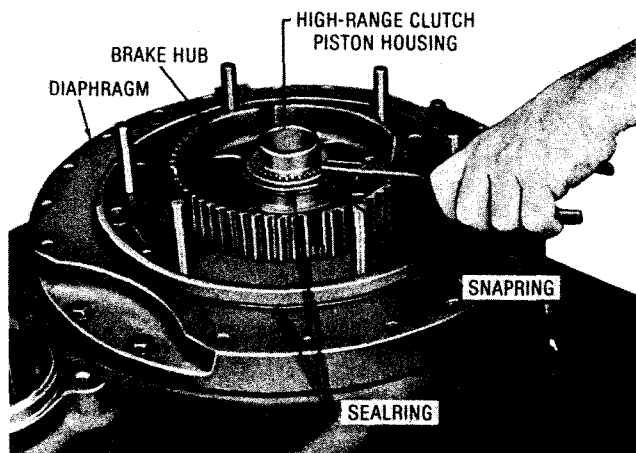

Fig. 7-27. Installing brake hub snapring (TTB)
(2) Install the sealring onto the diaphragm (fig. 7-27). Install the brake hub onto the splined hub of the high-range clutch piston housing. Retain the brake hub with a snapring.